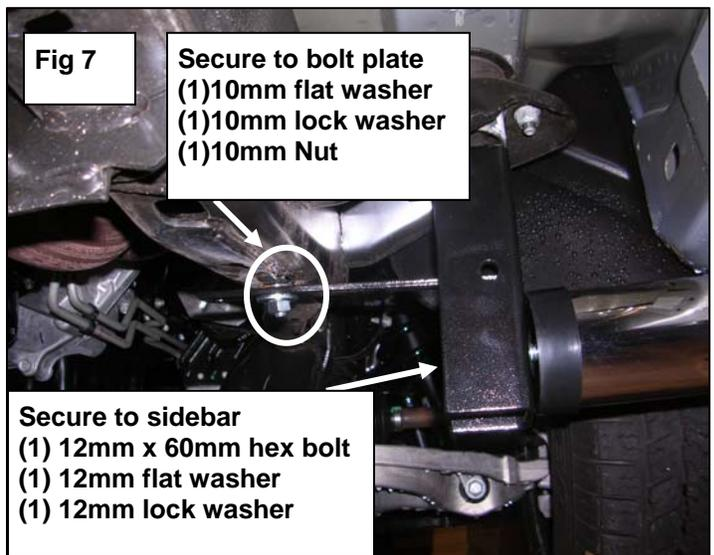

Fig 7
- Install Sidebar to the mounting brackets with (2) 12mm x 60mm hex bolt, (2) 12mm lock washer, and (2) 12mm flat washer. **(Fig 7)** shows Mounting Bracket attached, Snug but do not tighten hardware at this time.